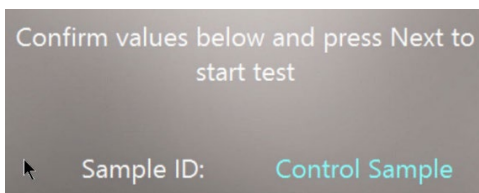

Figure 45: Control Sample confirmation screen
**Note:** If the selected assay has been set in the Sample ID screen to be run as a control sample, then text will appear on the Confirmation screen indicating that this is a control sample run as illustrated in Figure 45.